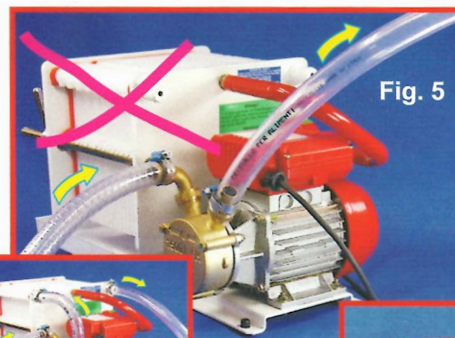

Fig. 5
• Remove the tube which connects the electropump to the filter by unscrewing the two ring nuts. Remove the output tube of the filter and connect it up to the pump. You have now removed the filter and can use the electropump on its own (Fig. 5)